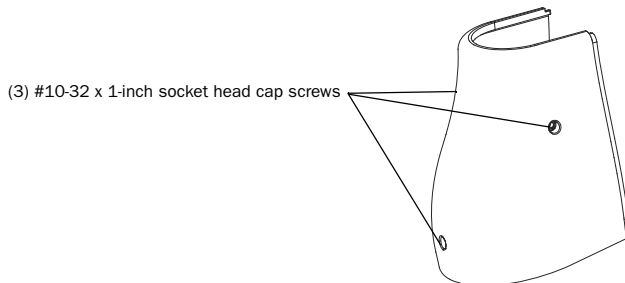

Figure 35. Attaching the plastic rear leg caps
**2** Place the rear leg caps over each leg. Attach each rear cap with the screws indicated in Figure 35.